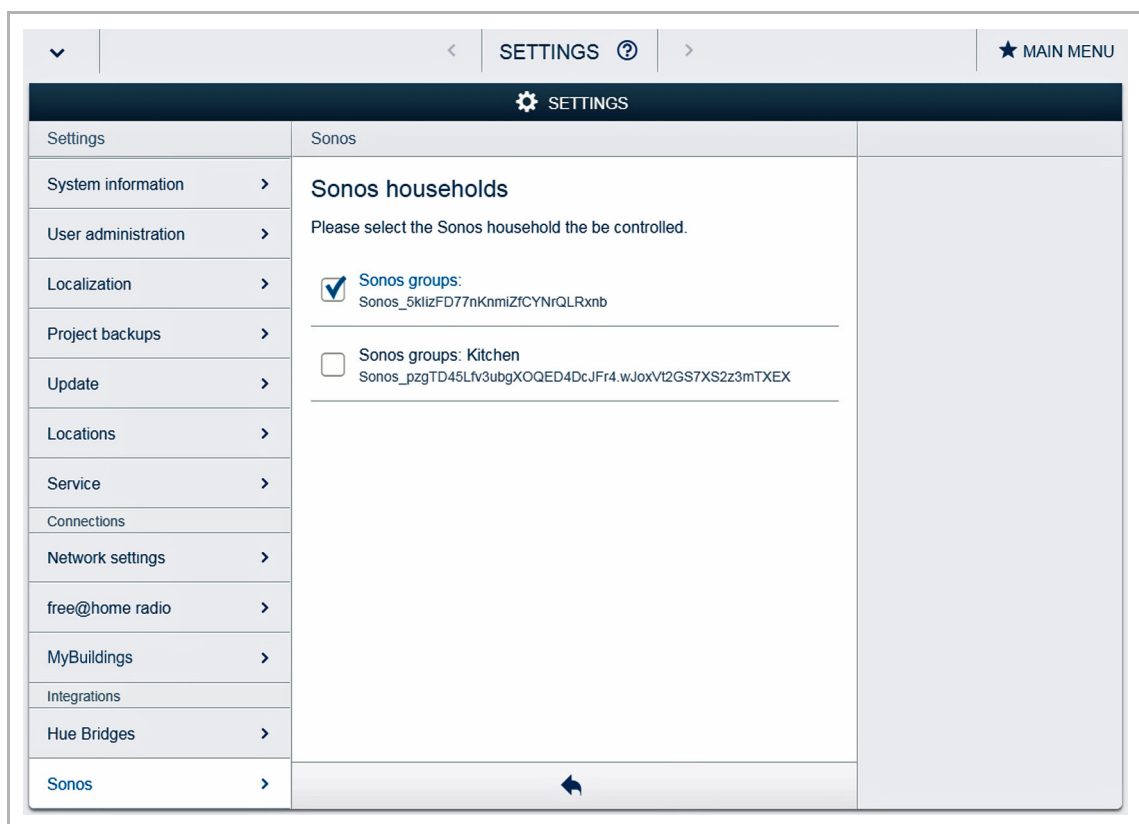

Fig. 117: Establishing a connection to a Sonos system
1. For connection to a Sonos system, see Fig. 117.